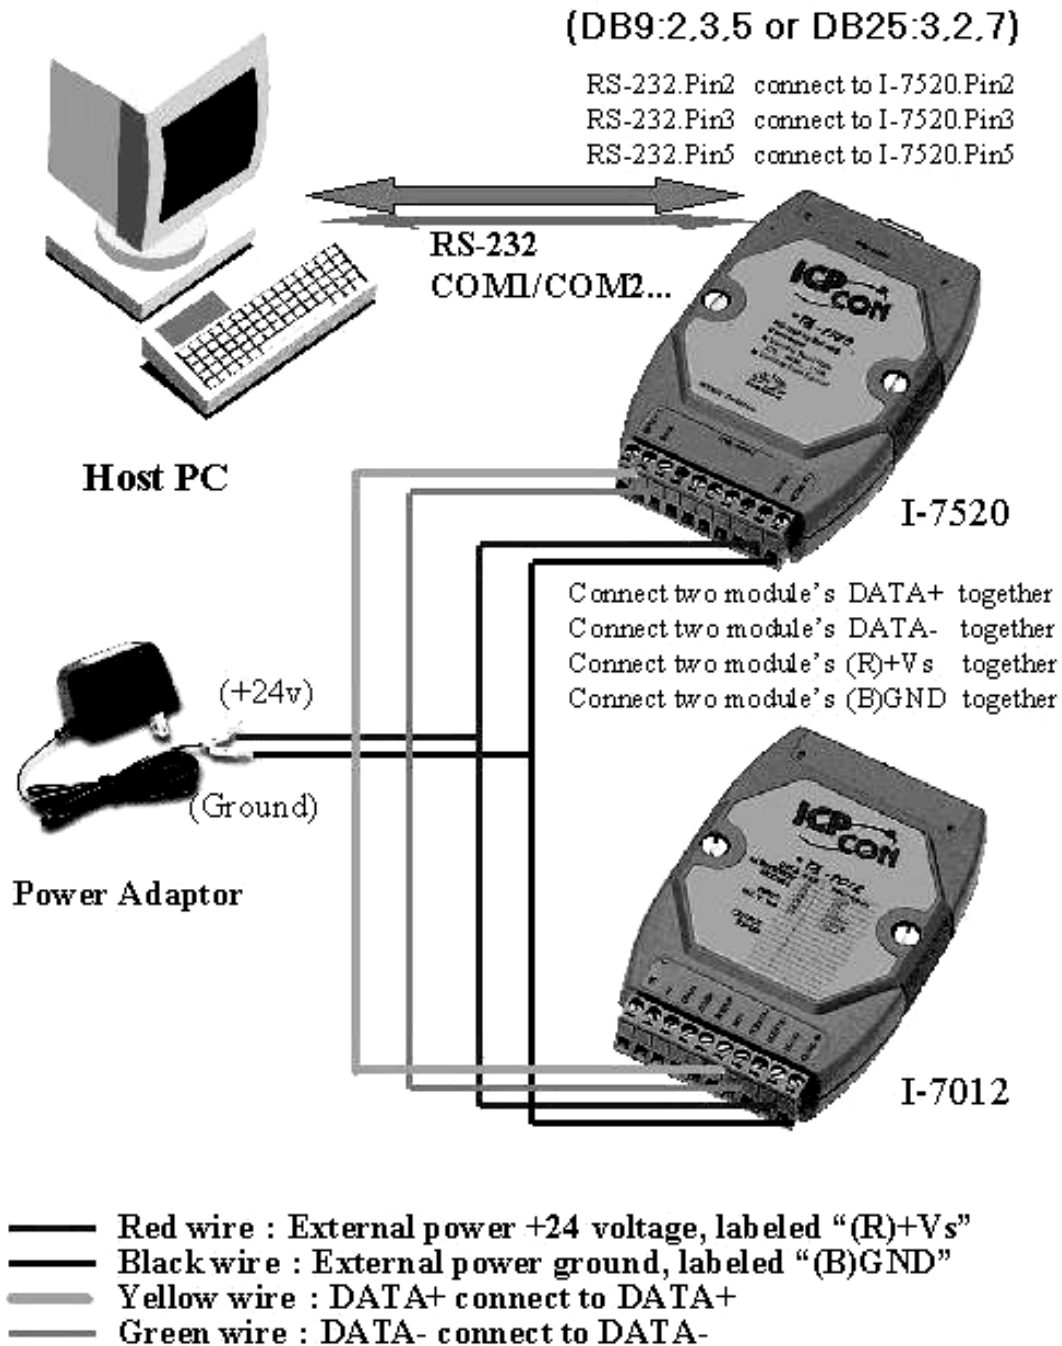

Figure 1-1. Connect the first module
1. Connect the first module per Figure 1-1. (Replace the I-7012 module by the user's first module.) NOTE: Do not connect more than one module at a time.